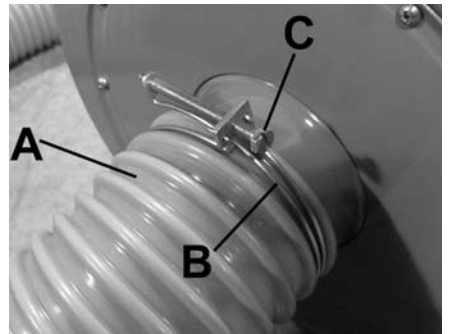

Figure 3
Place hose clamp (B) Fig.3 over hose (A) and slide hose over the inlet. Fix hose to inlet by tightening hose clamp fixing screw (C) as shown.